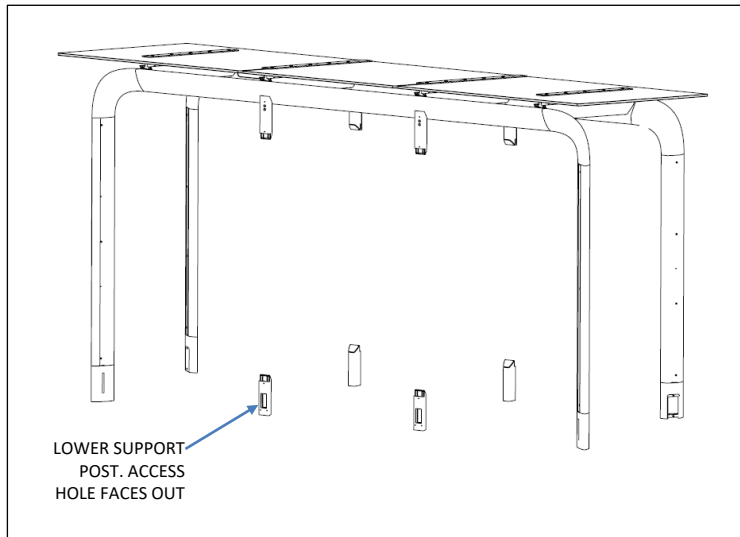

Fig. E1 – lower posts for glass walls
1. Set lower posts in position – note orientation of access hole. See Figs. E1 and E2. Secure with 1/2"-13 nut and washer, included in hardware pack #62600. Do not fully tighten.